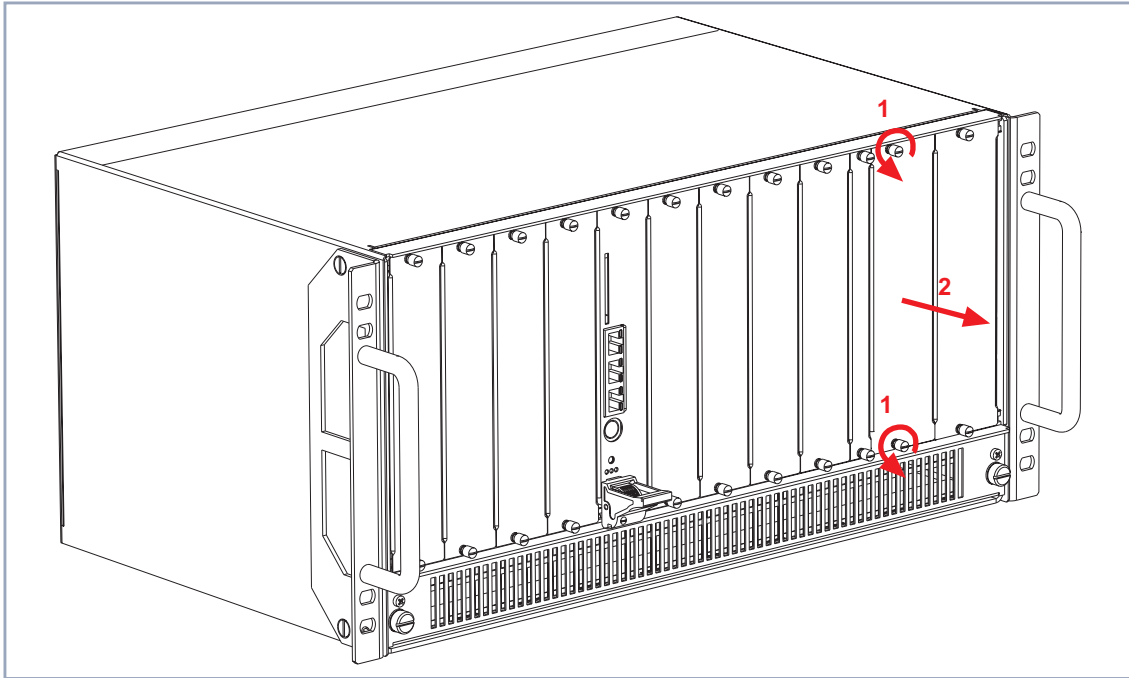

Figure 4-15: Removing the power supply unit dummy front panel
- Loosen the screws of the power supply dummy front panel as shown in figure 4-15, page 54, arrow no. 1.
- Remove the dummy front panel as shown in figure 4-15, page 54, arrow no. 2.